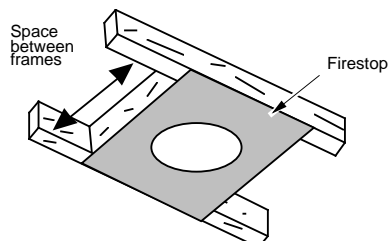

Figure 22
- Whenever the chimney penetrates a floor or ceiling a firestop is required on the bottom side of the floor joists (see Figure 22).